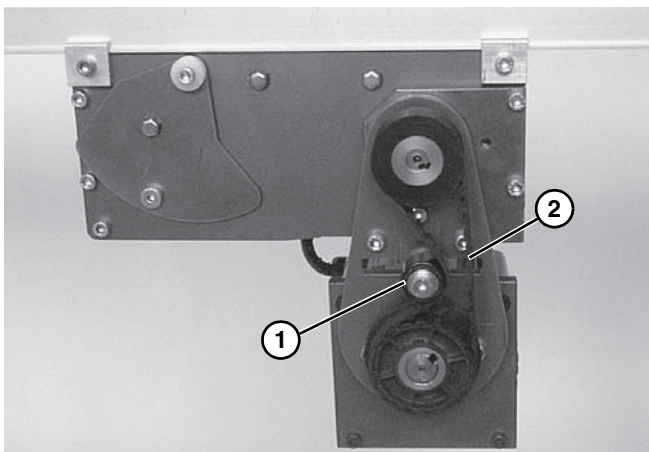

Figure 32
2. Loosen belt tensioner (**Figure 32, item 1**) then remove timing belt (**Figure 32, item 2**).